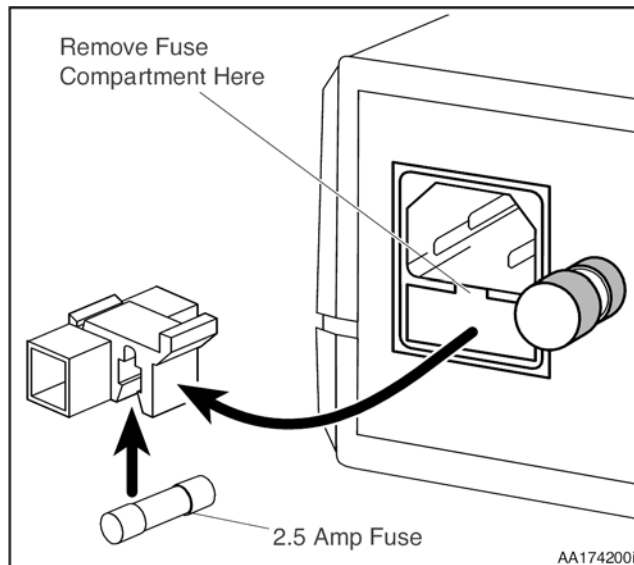

Figure 25. Domestic Fuse Replacement.
2. Remove the fuse compartment, as shown in Figure 25.